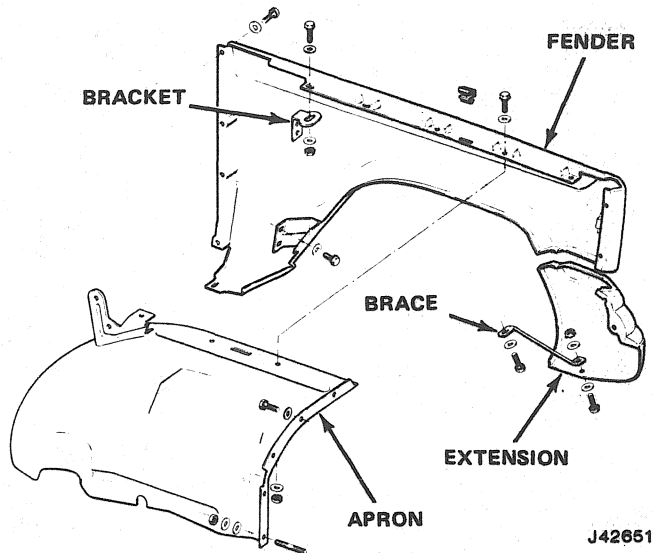

Fig. 3F-12 Front Fender—Cherokee-Wagoneer-Truck Models
- (1) Remove front bumper.
- (2) Remove headlamp to gain access through opening.
- (3) Reach through headlamp opening and remove bolts and washers attaching fender to grille face panel.
- (4) Remove side marker lamp reflector lens and disconnect lamp socket assembly from lens.
- (5) Remove bolts and washers attaching fender to grille face panel.
- (6) Disconnect brace at fender (fig. 3F-12).